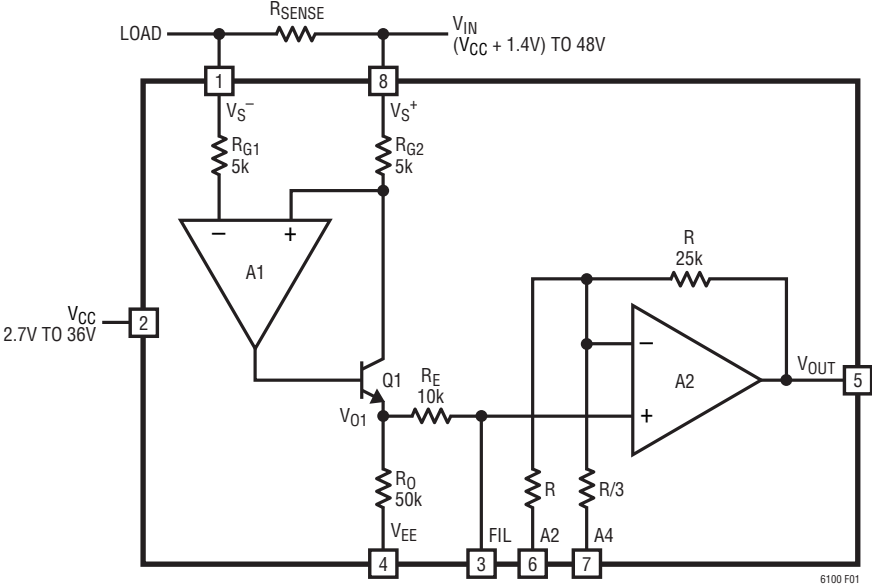

Figure 1. Functional Diagram
**$V_{S^+}$  (Pin 8):** Positive Sense Input Terminal. Connecting a supply to  $V_{S^+}$  and a load to  $V_{S^-}$  will allow the LT6100 to monitor the current through  $R_{SENSE}$ , refer to Figure 1.  $V_{S^+}$  is connected to an internal gain setting resistor  $R_{G2} = 5k$ .  $V_{S^+}$  remains functional for voltages up to 48V.
The LT6100 high side current sense amplifier (Figure 1) provides accurate unidirectional monitoring of current through a user-selected sense resistor. The LT6100 features a fully specified 4.1V to 48V input common mode range. A high PSRR  $V_{CC}$  supply (2.7V to 36V) powers the current sense amplifier and the internal op amp circuitry. The input sense voltage is level shifted from the positive sense power supply to the ground reference and amplified by a user-selected gain to the output. The buffered output voltage is directly proportional to the current flowing through the sense resistor.
### Theory of Operation (Refer to Figure 1)